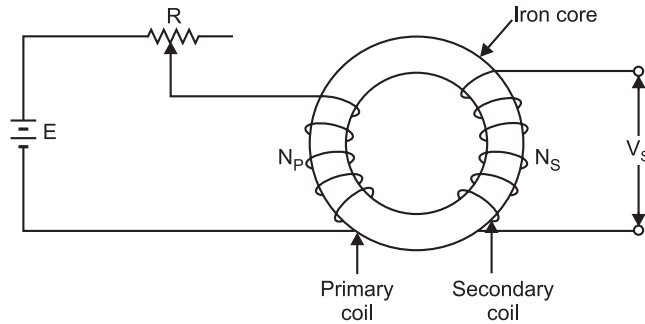

Fig. 9.16
**Example 9.29.** The dimensions of the magnetic core shown in Fig. 9.16 are :